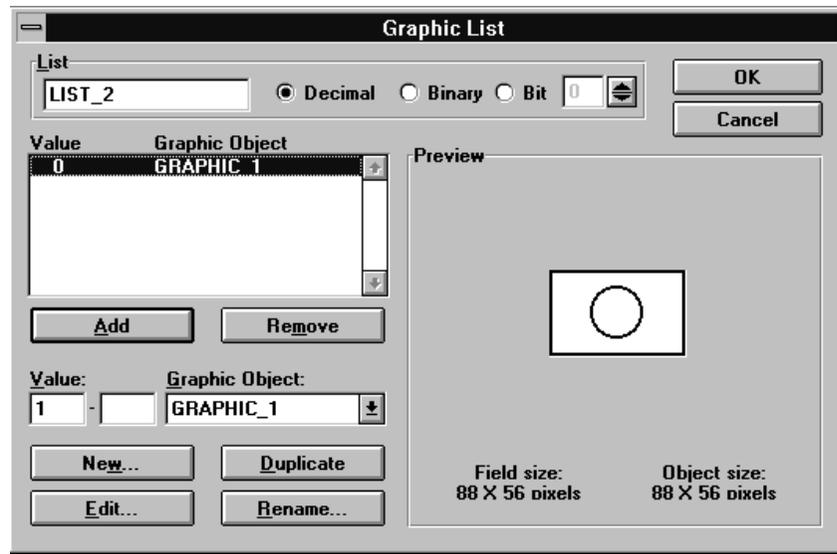

Figure 7-8 Creating a Graphic List
6. Click the *Add* button. Figure 7-8 shows how your dialog box should now look.